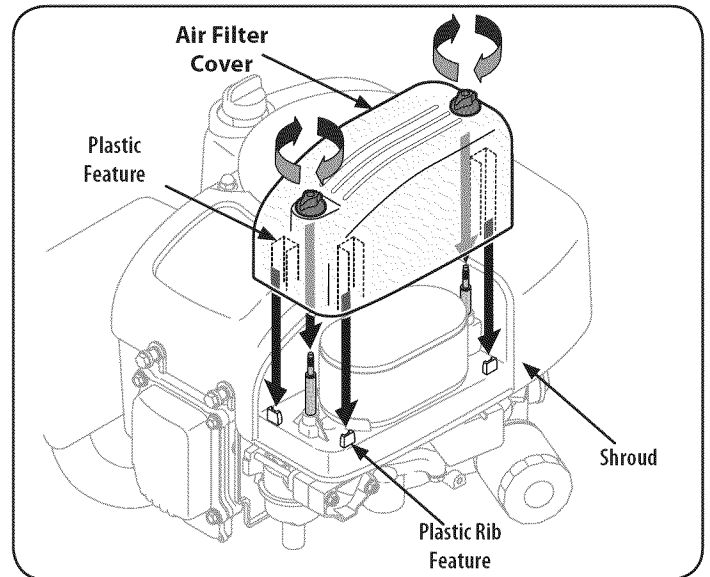

Figure 29
6. Attach the air filter cover, making sure to align plastic rib features on the shroud to the plastic features on the air filter cover. See Figure 29. Turn thumb screws clockwise until snug. Check for any misalignment.